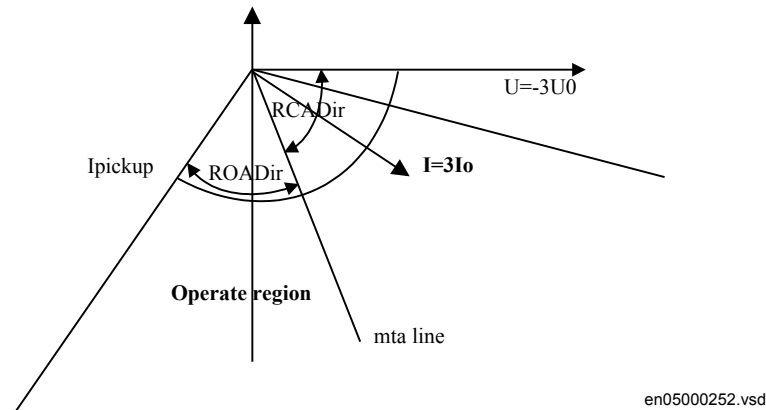

Figure 137: *I & U directional operating principle for CVGAPC function*
- the phasor of the measured current is within the operating region (defined by the relay operate angle, *ROADir* parameter setting; see figure 137).
- that the phasor of the measured current is within the operating region (defined by the $I \cdot \cos(\Phi)$ straight line and the relay operate angle, *ROADir* parameter setting; see figure 137).